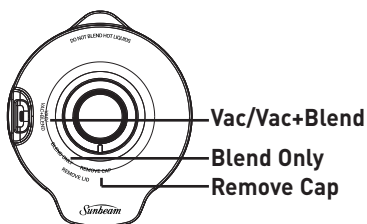

Figure 6
2. Turn the Seal Selector (cap) (Figure 6) on the Jug Lid to the appropriate selection:
13. Turn the Seal Selector (cap) (Figure 6) on the Jug Lid to the Remove Cap position and remove the Seal Selector (cap) from the Jug lid.